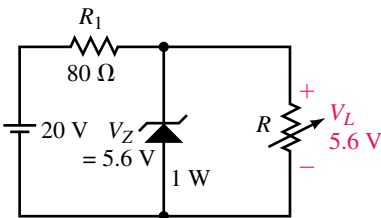

FIGURE 7-62
19. Given the circuit of Figure 7-62, determine the range of R (maximum and minimum values) which will ensure that the output voltage $V_L = 5.6 \text{ V}$ while the maximum power rating of the zener diode is not exceeded.